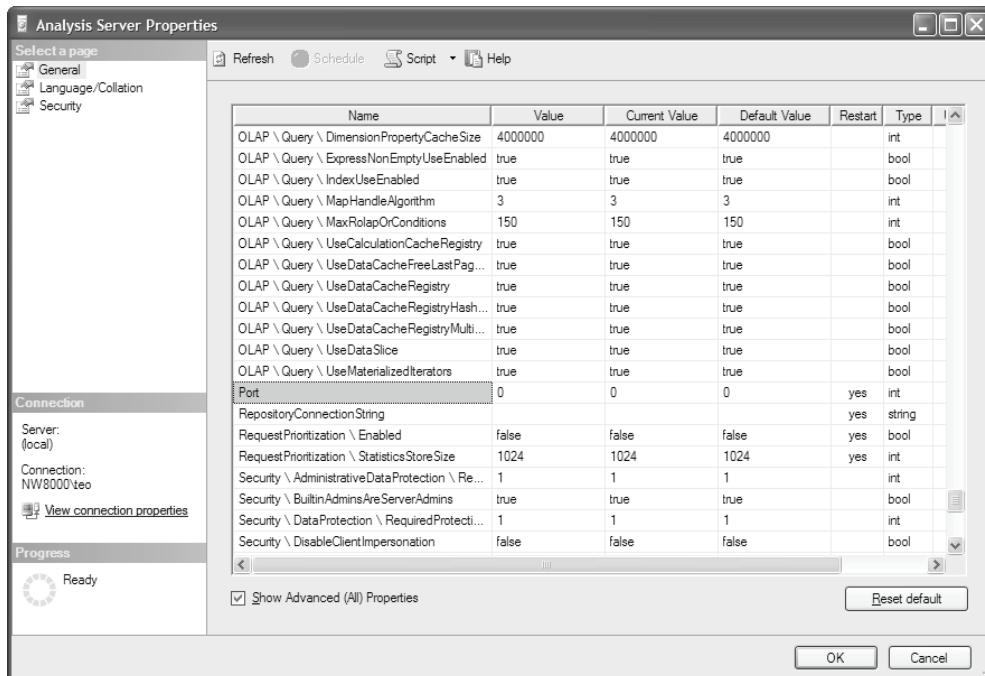

Figure 13.4 Use the Analysis Services Properties dialog to manage the server properties.
2. In the Object Explorer, right-click on the server and choose *Properties* to bring up the Analysis Services Properties dialog (Figure 13.4).